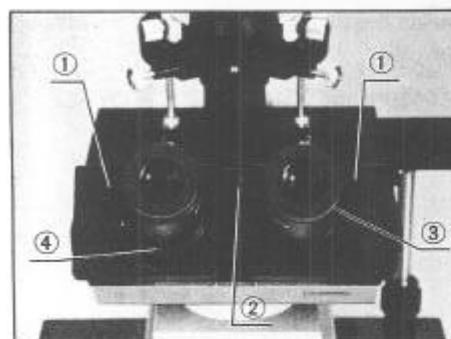

Fig. 25
⑥ Observation Tube
- 1) Looking through the binocular tube, slide the knurled dovetail mounts ① of the right and left eyepieces with both hands, until a perfect binocular vision is obtained. (Fig. 25)
- 2) If your interpupillary distance setting is already known, set it on the scale ② located between the eyepieces.
- b. Looking through the focusable eyepiece with the right eye, rotate the helicoid ring ③ on the eyepiece, until the frame reticle can be sharply focused. (Fig. 25)